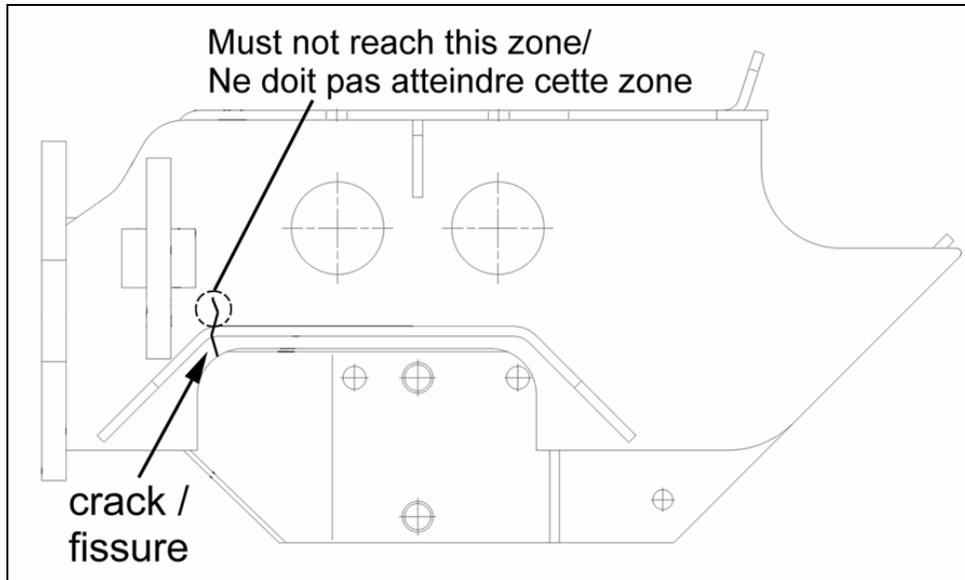

FIGURE 2
2. Remove asphalt base undercoating (Gravel Guard 3M) and any rust present near the risk or affected area, the risk areas are located on sub-assemblies and indicated in figure 2.